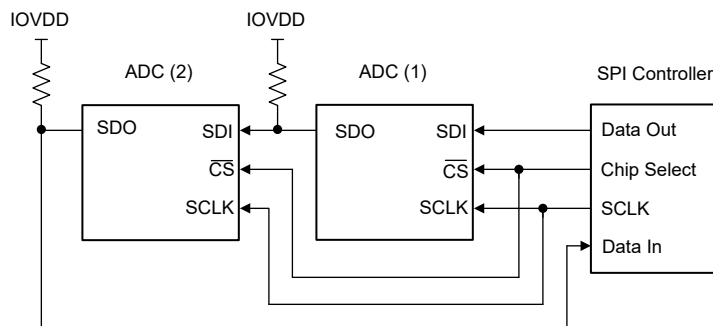

图 7-48. SPI Daisy-Chain Connection
图 7-48 shows two devices connected in the SPI daisy-chain configuration. The SDI of ADC (1) connects to the host SPI data out, and SDO of ADC (2) connects to the host SPI data input. During the shifting of input data, SDI appears on SDO to drive the SDI of the next device in the chain. The shift operation continues until the last device in the chain is reached. The SPI frame ends when $\overline{CS}$ is taken high, at which time the data shifted into the devices are interpreted.